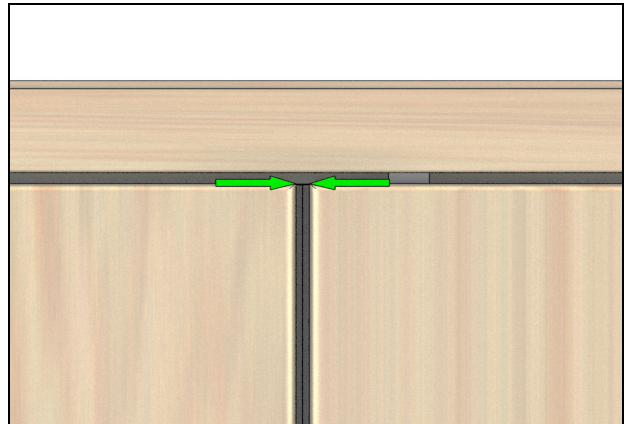

Figure 25
3. Close the panel(s) and check the margin between the active and inactive panel or panel and jambs. The door is designed to have a 1/8" (3) gap between the wood stiles. See Figure 25.